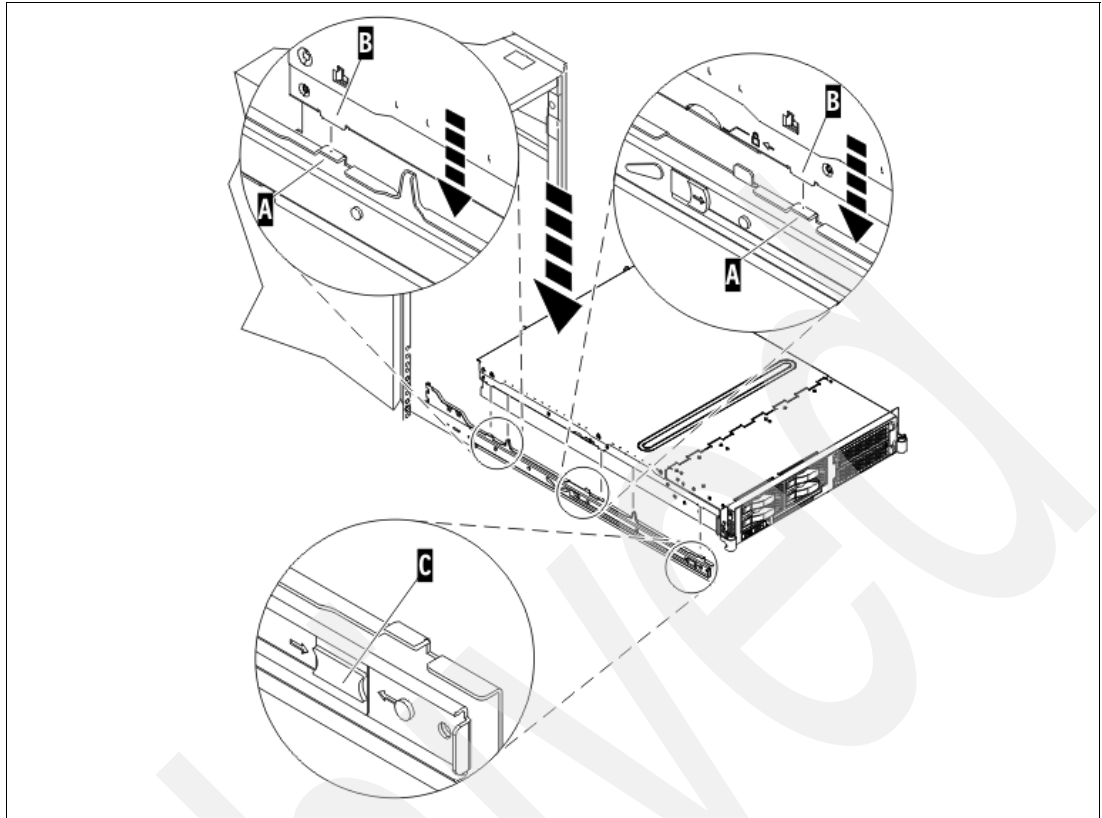

Figure 2-17 Lowering the system onto the rails
3. Refer to Figure 2-17 on page 57 and align the slots on the system unit chassis with the tabs A on the rails.